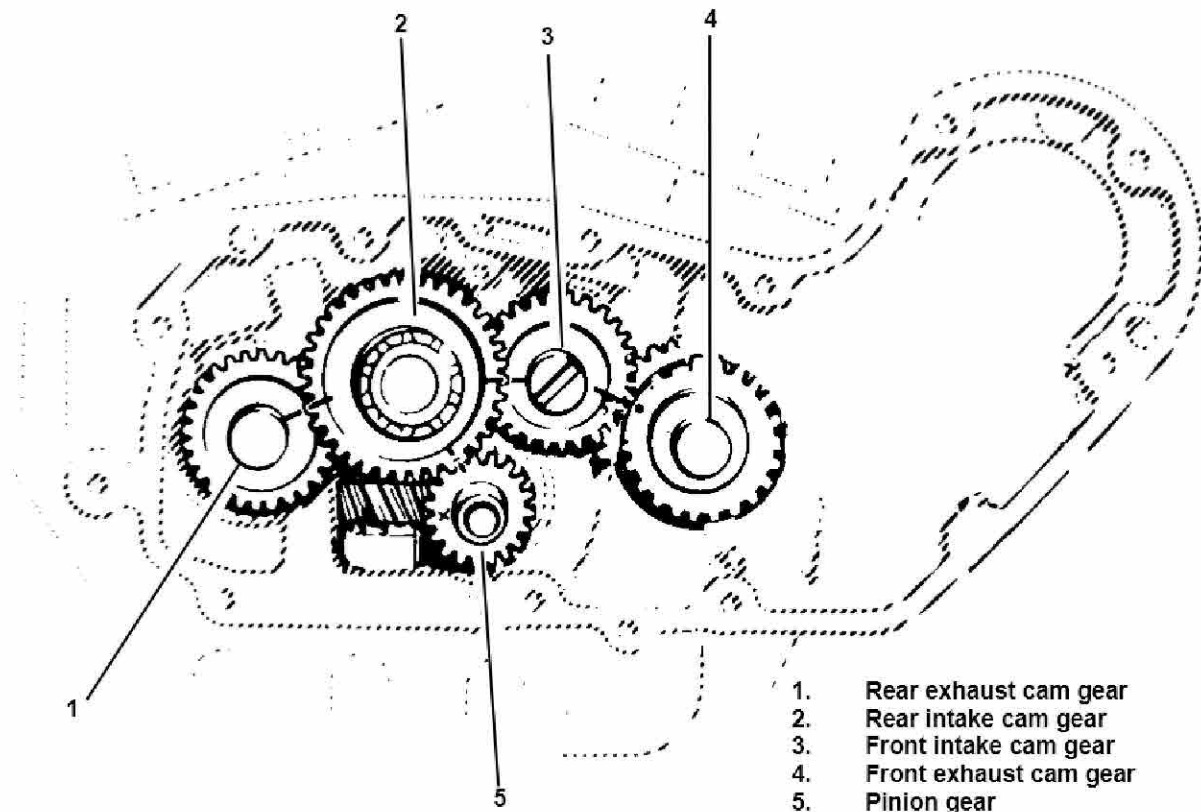

Figure 2. Proper Alignment of Camshaft Timing Marks
3. See Figure 2. Rotate engine to align timing marks. Cams are numbered 1 to 4 from the rear exhaust (1) to the front exhaust (4). Remove camshaft 2. One at a time remove camshaft 1, 3, and 4, and replace with the appropriate camshaft from this kit. Be careful to maintain timing mark alignment. Install camshaft 2 from this kit last. Carefully check alignment of all timing marks.